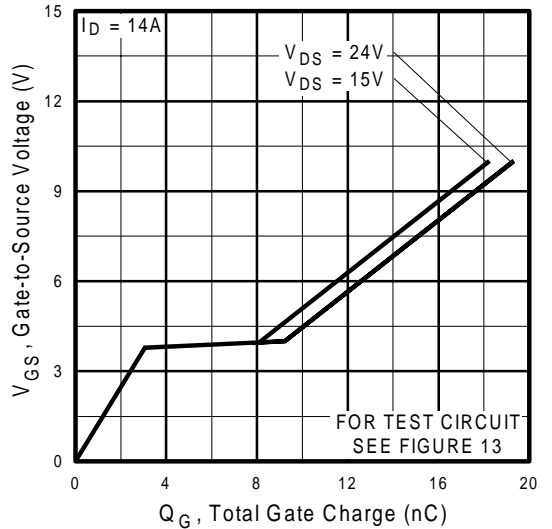

Fig 6. Typical Gate Charge Vs. Gate-to-Source Voltage
| Q_g | Total Gate Charge | — | — | 15 | nC | $I_D = 14A$ $V_{DS} = 24V$ $V_{GS} = 4.5V$, See Fig. 6 and 13 ④ ⑦ |